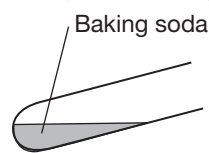

Figure 1.
- Holding the test tube nearly horizontal, shake the baking soda gently so that it spreads out a bit (see Figure 1).